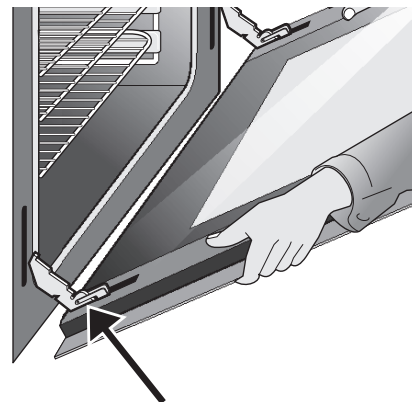

Figure 42: Carefully remove door grasping both sides and pulling hinges from door frame
3. Firmly grasp both sides of oven door along the door sides (Do not use the oven door handle).(Figure 42)
4. Before completing this step, be prepared to hold the whole weight of the door while grasping the sides of the oven door with both hands. Hold midway down the oven door sides. Close the oven door to about 4 inches from the door frame. The oven door should release from the frame on its own. (Figure 42).
2. Position the angle of the door to the door removal angle and carefully insert the door hinge arms fully and evenly into the door hinge slots. Carefully let the weight of the door transfer from your hands so that the oven now supports the oven door. (Figure 42).